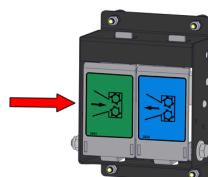

Figure 15 - Forward Feed Control
4. Press the **GREEN** Forward Feed Control (Figure 15).